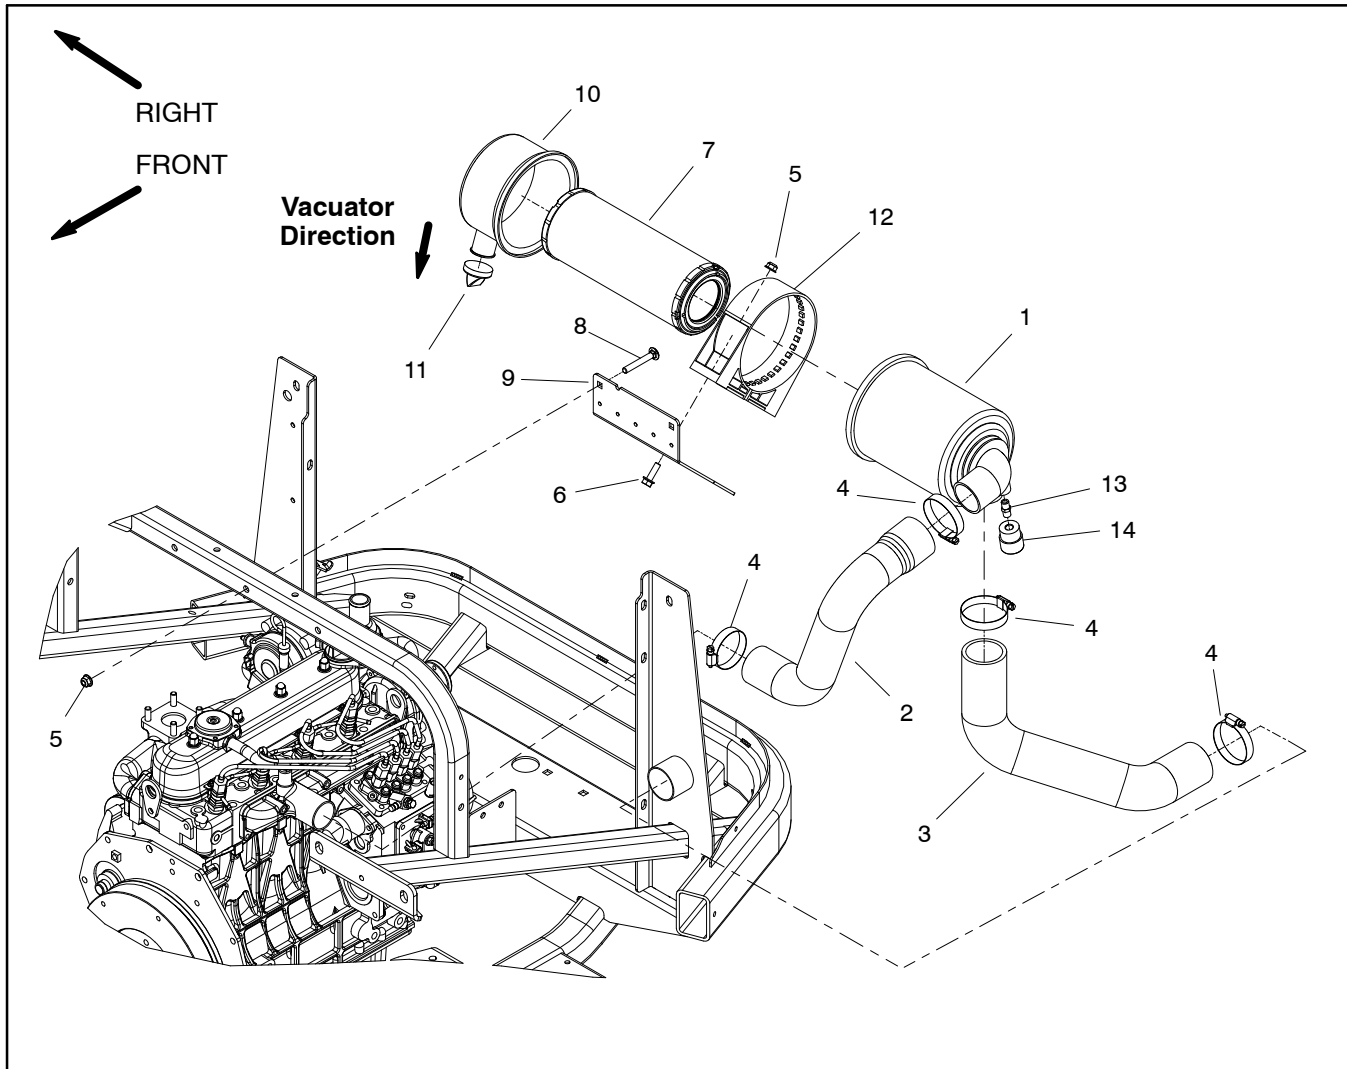

Figure 2
## Removal (Fig. 2)
3. Remove air cleaner components as needed using Figure 2 as a guide.
## Installation (Fig. 2)
1. Assemble air cleaner system using Figure 2 as a guide.
- B. Make sure that air intake hose (item 2) has clearance around it at all points after air cleaner installation is completed.